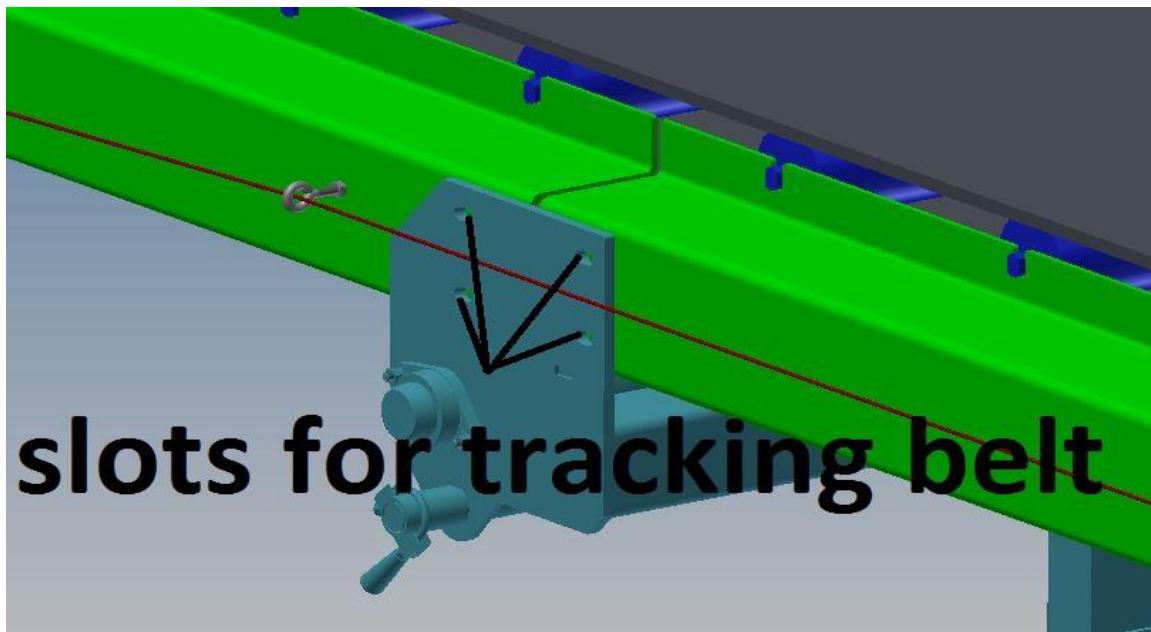

Figure 19 – Showing Slots in Pedestals to Allowing Stringer Movement for Tracking
- Tracking of the belt on the carrier rollers is achieved by moving a complete stringer in the slots in the pedestal mounting plates. (see figure 19) Moving a stringer 1/8" inch (3mm) is a good adjustment increment. A reminder that it is strongly recommended to make marks or record exact adjustments made while tracking the belt so that if it becomes necessary, they can be reversed later in the tracking process.